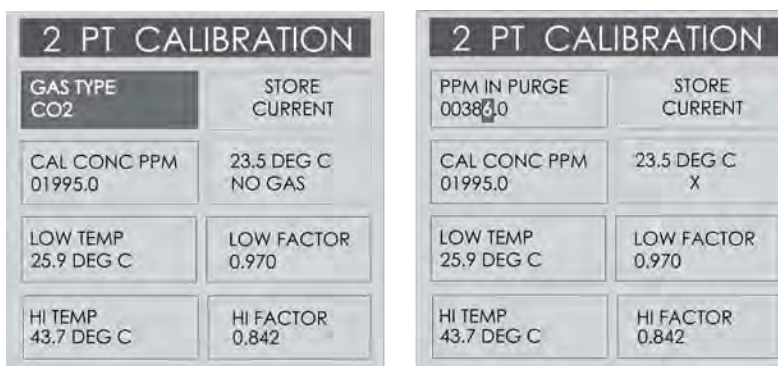

Figure 4-12. Accessing the CO₂ Atmospheric Concentration Setting (PPM IN PURGE)
2. Ensure the GAS TYPE setting is selected (see Figure 4-12) and press ENTER.
3. CO₂ calibration curve options are displayed. Simply press ENTER to access the ambient CO₂ concentration setting (PPM IN PURGE). See Figure 4-12.